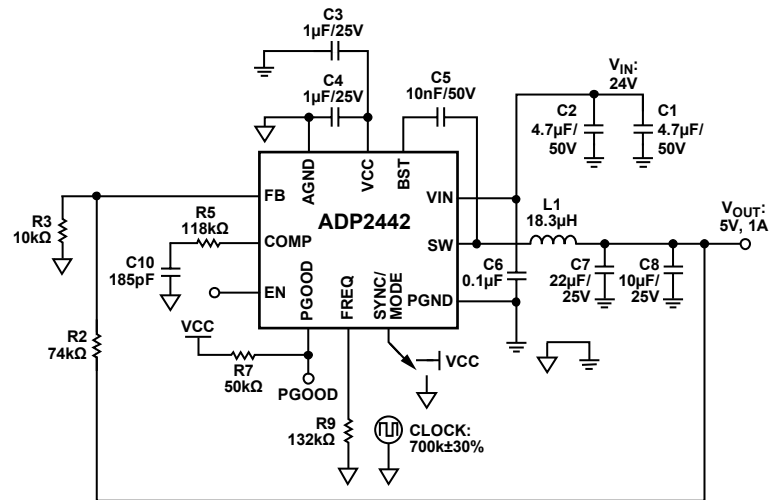

Figure 63. Typical Application Circuit,  $V_{IN} = 24\text{ V} \pm 10\%$ ,  $V_{OUT} = 5\text{ V}$ ,  $f_{SW} = 700\text{ kHz}$
See Figure 63 for a schematic of this design example and Table 14 for the calculated component values.
**Table 14. Calculated Component Values for Figure 63**